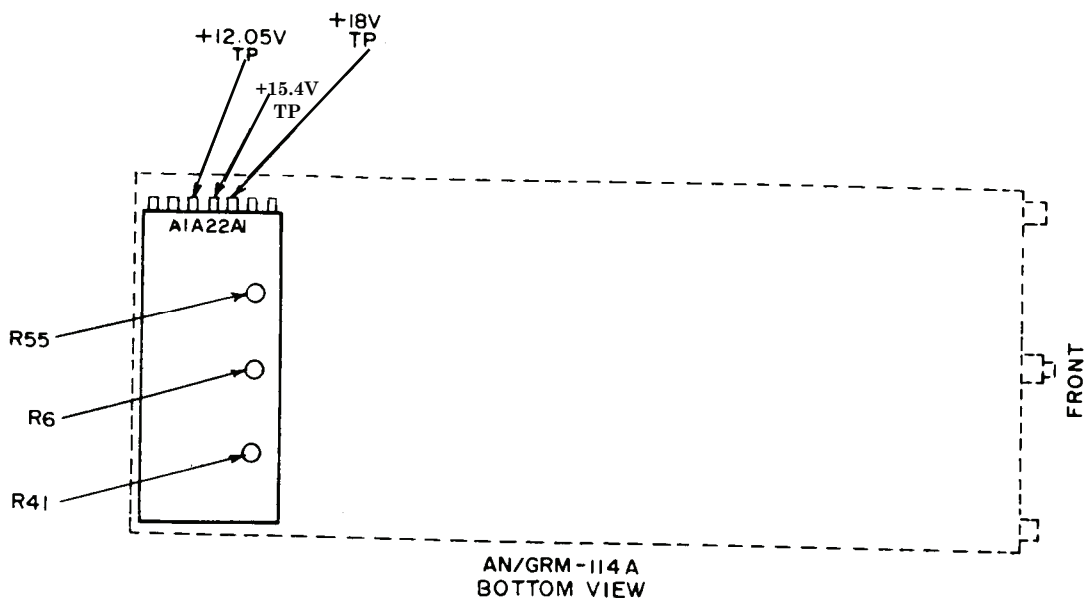

Figure 9. AN/GRM-114A - bottom view.
- (1) Set **PWR-OFF-BATT** switch to **OFF** and remove battery from TI.
- (2) Connect decade resistor across battery terminals.
- (3) Set decade resistor for 150 Ω .
- (4) Connect multimeter to +18V TP (fig. 9) and chassis ground.
- (5) Set **PWR-OFF-BATT** switch to **PWR**. If multimeter does not indicate between 17.6 and 18.4 V dc, perform **b** (1) below.
- (6) Move multimeter positive lead to +15.4 V TP (fig. 9). If multimeter does not indicate between 15.55 and 15.25 V dc, perform **b** (2) below.
- (7) Move multimeter positive lead to +12.05V TP (fig. 9). If multimeter does not indicate between 11.95 and 12.15 V dc, perform **b** (3) below.
- (8) Set **PWR-OFF-BATT** switch to **OFF**, unplug from power and remove decade resistor from battery terminals.
- (9) Connect dc power supply and multimeter across battery terminals.
- (10) Set dc power supply voltage for a 12 V reading on multimeter.
- (11) Set **PWR-OFF-BATT** switch to **BATT** and slowly reduce dc power supply voltage until TI just shuts off. If multimeter does not read between 10.9 and 11.1 V dc, perform **b** (4) below.
- (1) Adjust A1A22A1R41 (fig. 9) for an 18 V indication on multimeter (R).
- (2) Adjust A1A22A1R6 (fig. 9) for a 15.4 V indication on multimeter (R).
- (3) Adjust A1A22A1R55 (fig. 9) for a 12.05 V indication on multimeter (R).